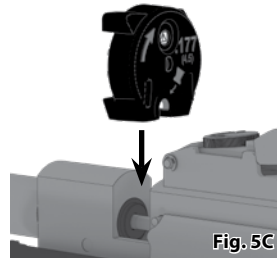

Fig. 5C
2. With the front of the magazine (Fig. 5A) facing the butt of the air rifle, insert the magazine from the top using the open slot and push it downward on the magazine catch until the magazine snaps into place. (Fig. 5C)